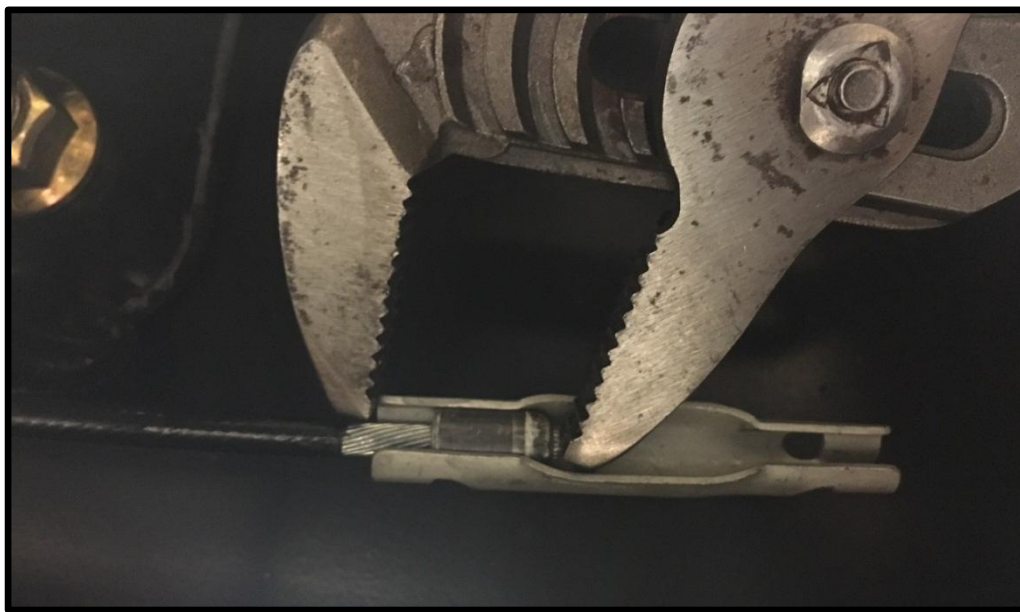

FIG. 4-2
8. Install cables into connector utilizing channel lock pliers until they are properly seated. Refer to FIG. 4-2.